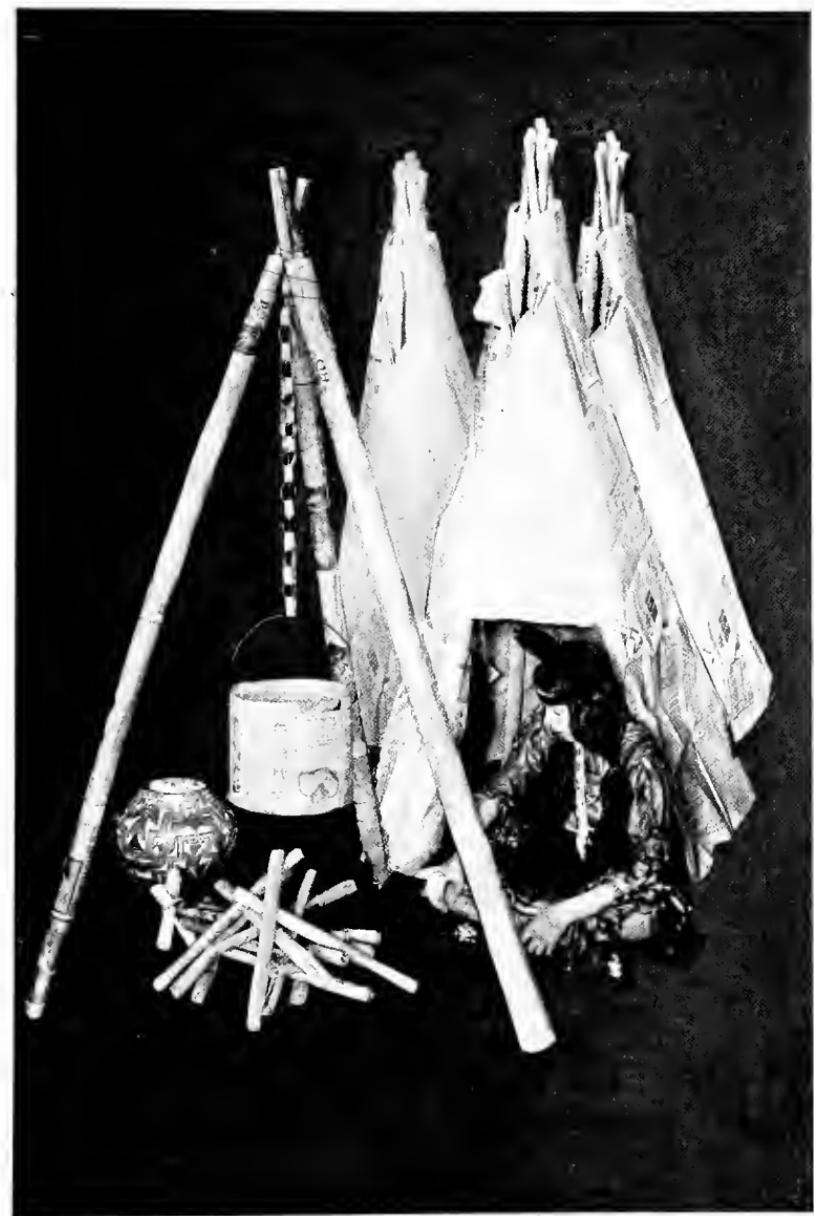

FIG. 408.—A PLAY INDIAN VILLAGE WITH NEWSPAPER TEPEES
**Tepees for an Indian Village** (Fig. 408), or, if you have a large playroom, and wish to keep the cabin intact, you
Figure 408 shows how thin tubes are stuck into the ends of the paper poles used for the tepee framework, and how these are crossed. Tie the upper ends together, and spread the lower ends as shown; then either pin or paste newspapers around the poles for a covering.
**A Kettle Tripod** for your Indian village, or for your cabin camp, like the one in Fig. 408, is formed by fastening together three paper poles at the top in the same manner that the tepee framework is put together, and
Suspend the kettle from its tripod by means of a paper *chain* (Fig. 408). Probably you have made similar paper chains, but this one must be reenforced by threading the